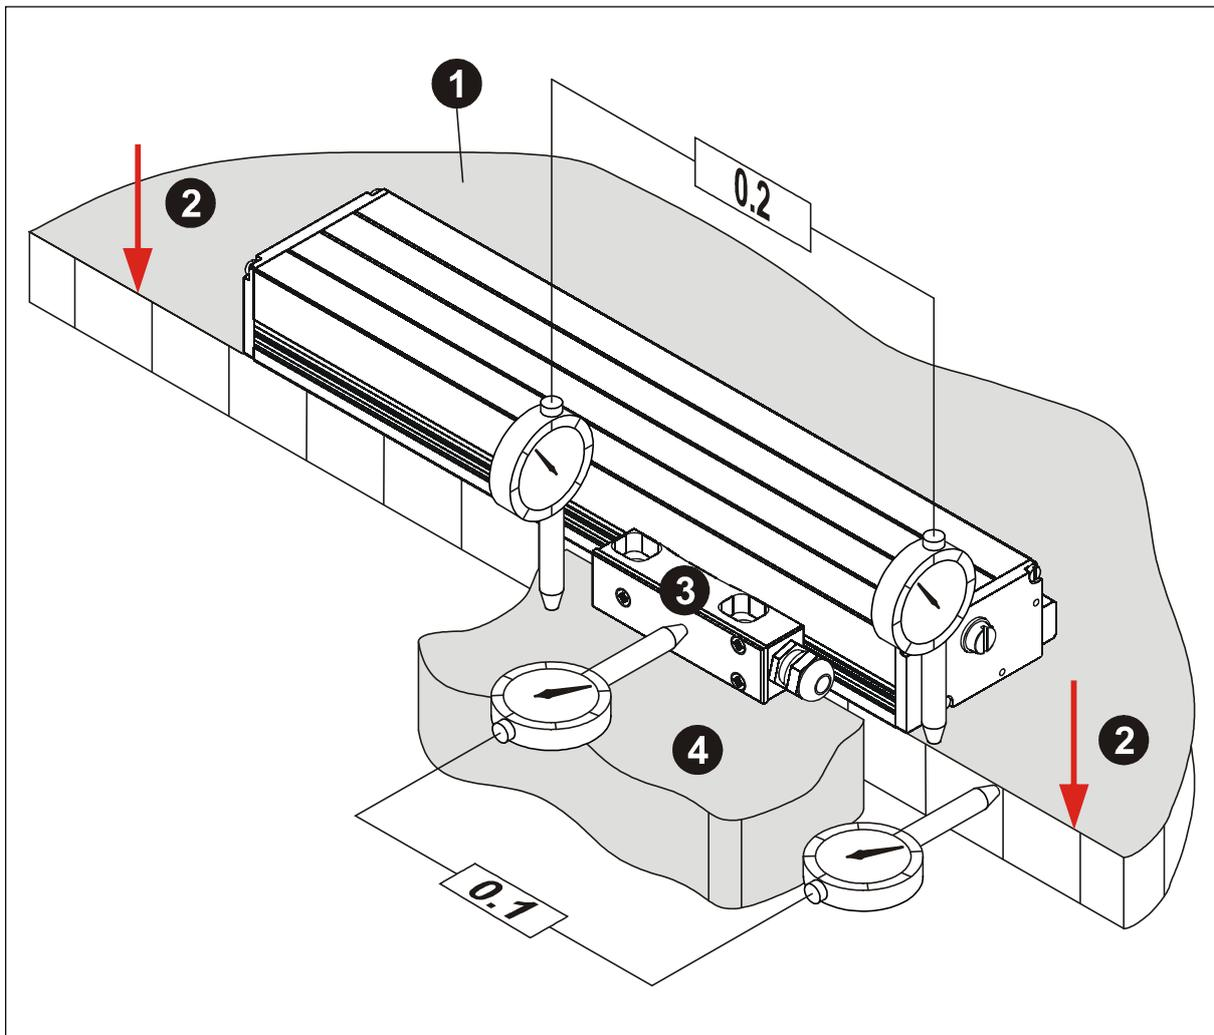
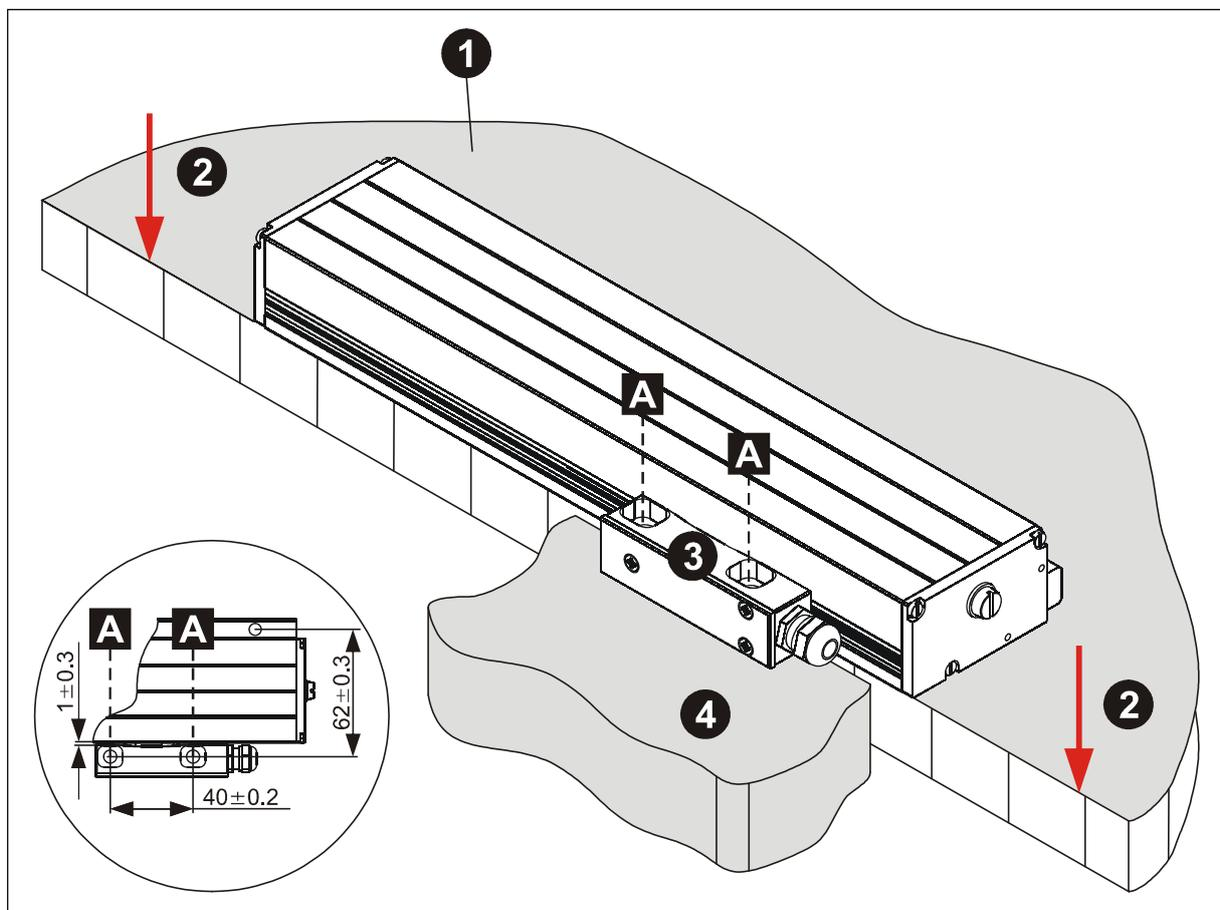

Figure 9: Preparation of bolting surface (4), variant 1
Figure 10: Fastening threads for the driver slide, variant 1
- Align driver slide according to the tolerance data Figure 9 page 48 and additionally to the measure  $1 \pm 0.3$  mm Figure 10 page 49, related to the complete measuring length.
- Can the mounting aid (1) be inserted over the complete measuring length easily between driver slide (2) and measuring system ?